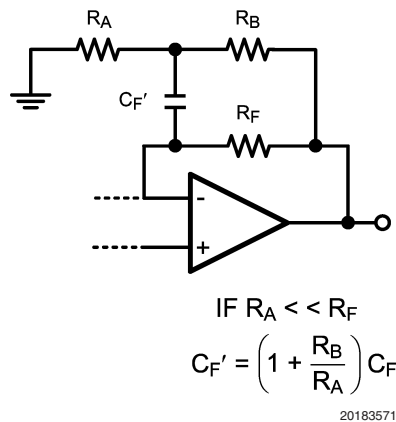

FIGURE 10. Obtaining Small C_F from Large C_F'
Calculating C_F from Equation (3) can sometimes return unreasonably small values (<1 pF), especially for high speed applications. In these cases, it is often more practical to use the circuit shown in Figure 10 in order to allow more reasonable values. In this circuit, the capacitance C_F' is $(1 + R_B/R_A)$ times the effective feedback capacitance, C_F . A larger capacitor can now be used in this circuit to obtain a smaller effective capacitance.